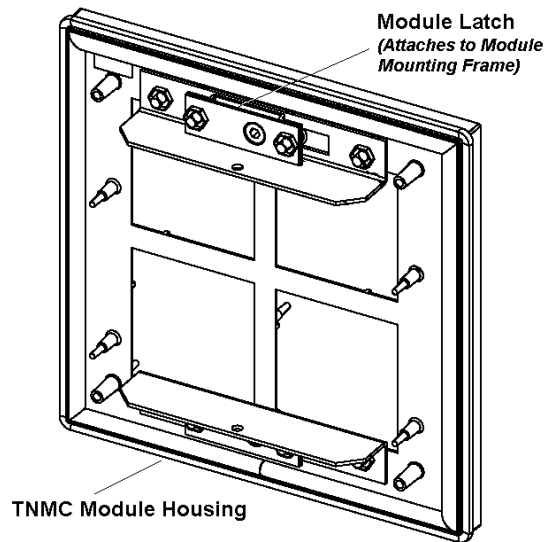

Figure 19: TNMC Module (Rear View)
2. Unlatch the latch fasteners, illustrated in **Figure 19**, by turning them a quarter-turn using a $\frac{7}{32}$ " nut driver. Turn the top latch clockwise and the bottom latch counterclockwise. Carefully remove the module and detach the ribbon cables. Label the cables, indicating which cable was removed from which connector; the labeling will be helpful when replacing the board.